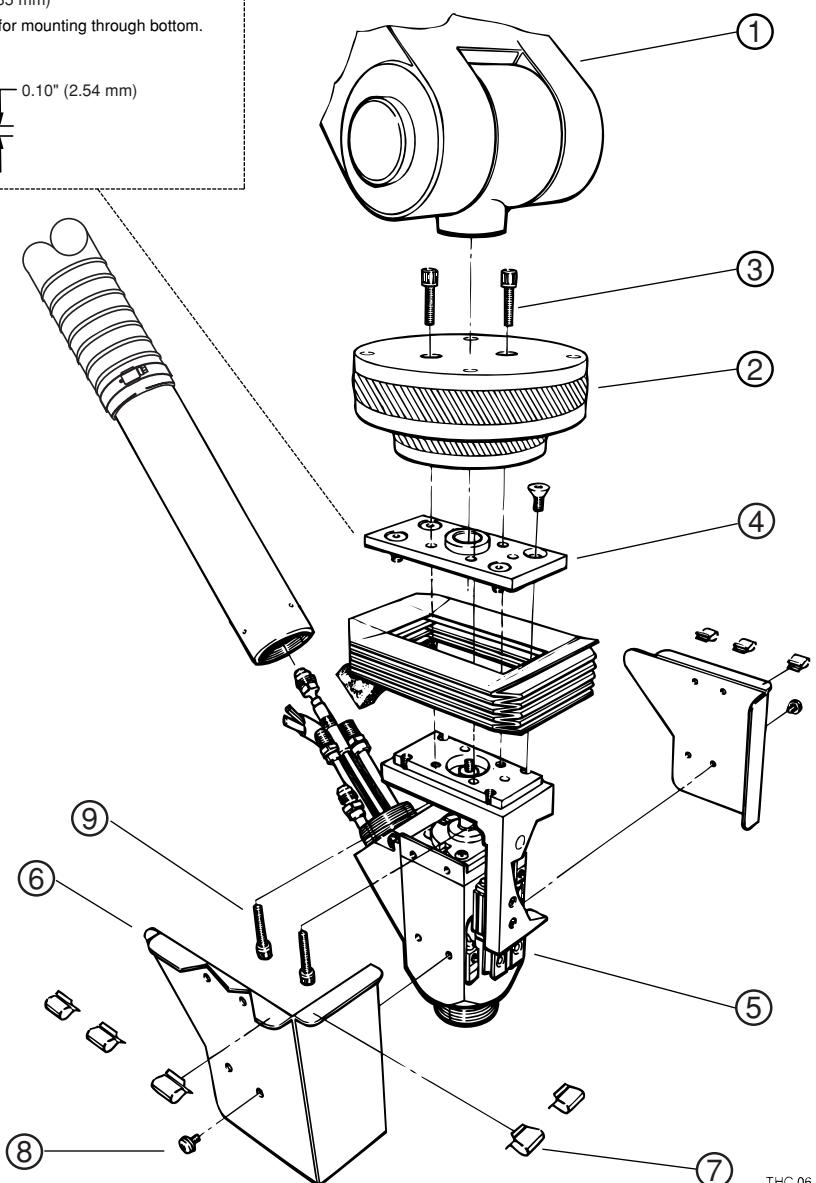

Figure 3-3 Robotic lifter assembly mounting details
See Figure 3-3. If installing the torch breakaway option, go to page 3-8.
1. Hypertherm recommends that a safety breakaway (2) be used to mount the lifter assembly.
2. The customer must provide an interface that will align with the lifter mounting plate (4). Mounting plate (4) dimensions are shown in Figure 3-3.
3. If the lifter can be installed from the top with hex screws (3), proceed as follows:
- a. Secure lifter (5) to the safety breakaway (2) with hex screws (3).
- b. Install hex screws (3) through safety breakaway (2) and into the threaded holes of the mounting plate (4).
- c. Install the safety breakaway and lifter to the robot (1).
4. If the lifter can not be installed from the top with hex screws (3), proceed as follows:
- a. Remove clips (7), screws (8) and covers (6).
- b. Secure the lifter (5) to the safety breakaway (2) with hex screws (9).
- c. Install hex screws (9) through mounting plate (4) and in to threaded holes of the safety breakaway (2).
- d. Install the covers (6) with clips (7) and screws (8).